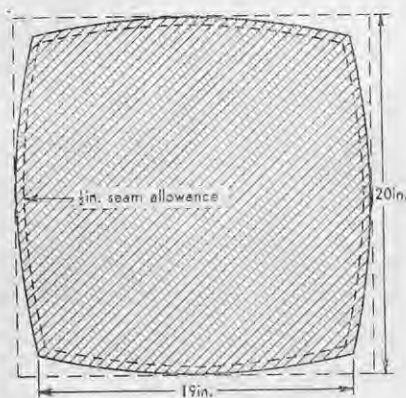

Fig. 4—Method of cutting a square cushion to obtain better filled corners.
2. **Square cushions** tend to have corners that look like ears. To make a square cushion with a better filled corner, cut material for cushion case and cushion cover as in Fig. 4, and make the cushion case and cover as described for the simple square cushion.